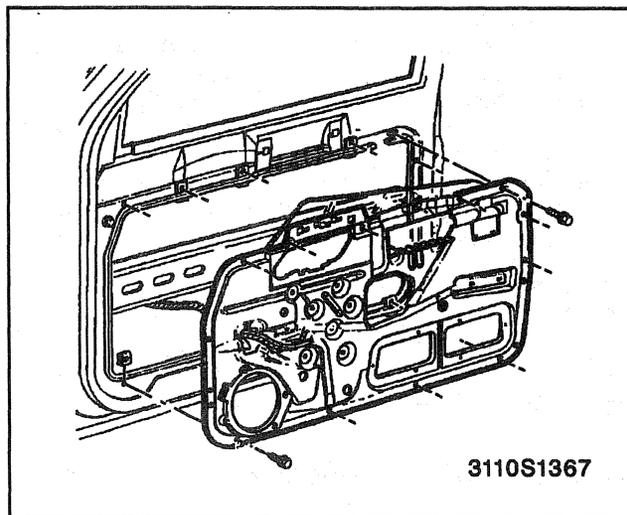

Figure 24—Front Door Inner Mounting Panel Assembly
Remove or Disconnect (Figures 24 and 25)
4. Inner panel bolts (Figure 24).
Install or Connect (Figures 24 and 25)
3. Lock rods to lock handle, lock lever, and lock rod guides (Figure 24).
Remove or Disconnect (Figures 24, 30 and 31)
↔ Install or Connect (Figures 24, 30 and 31)